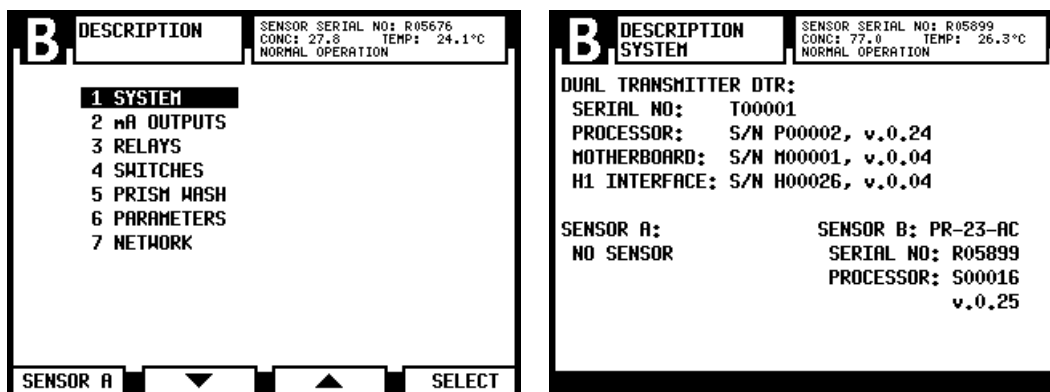

Figure 24 System description
1. **SYSTEM:** See Figure 24 \(page 53\), right side.